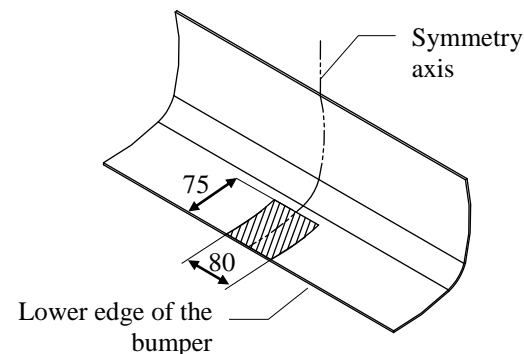

Fig. 3 Bumper cut out
8. Reassemble the bumper after cut out fragment as shown in fig. 3.
10. Fix body of the automat (pos. 15) and the socket plate (pos. 3) using bolts M12x25mm (pos. 6) from accessories. Place tow-ball (pos. 2) according to supplied instruction.